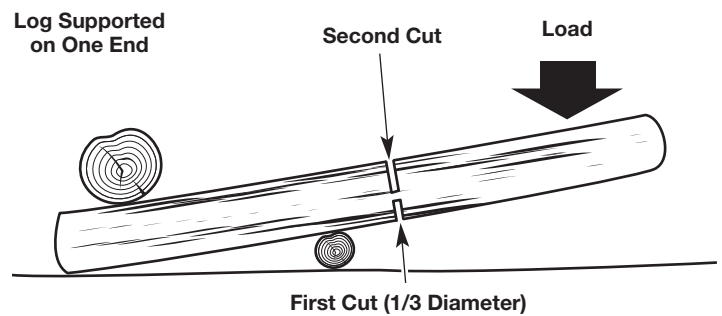

Fig. 29
- If the log is supported on one end (Fig. 29), make the first cut from below (underbucking). Refer to *Underbucking*.